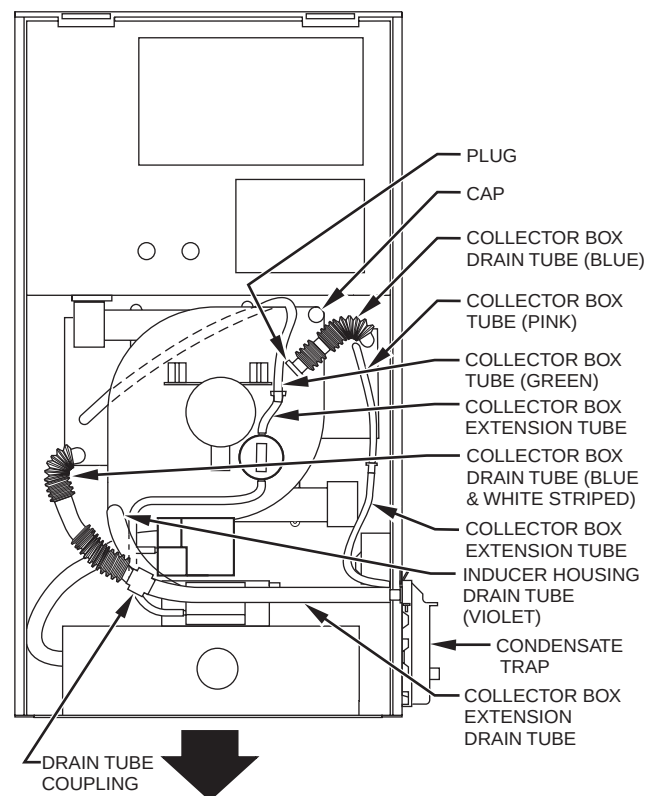

**Fig. 9—Downflow Tube Configuration
- (3.) Route extended collector box drain tube directly from collector box drain to condensate trap as shown in Fig. 9.
- (1.) Route inducer housing drain tube (violet label) directly from inducer housing to condensate trap as shown in Fig. 9.